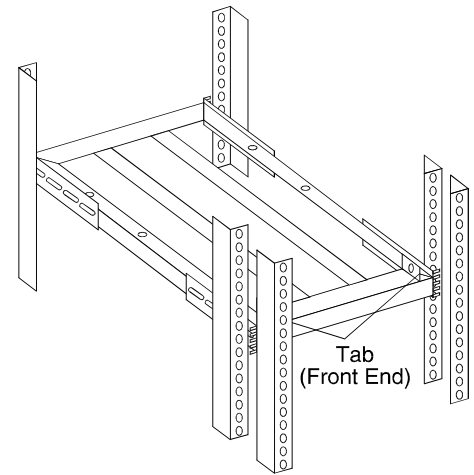

Figure 12
- c. Once you have attached the brackets to the frame, hold the frame in the rack to make sure it will fit properly; if you need to adjust the fit, you can slide the brackets. Next, tighten the bolts that hold the brackets to the frame. Now, look at Figure 12; use the appropriate size bolts to attach the brackets to the uprights in your rack.
Note: Figure 12 is only an example of the mounting position for a rack built to EIA 310-C standards. Different rack manufacturers may vary in design and/or dimensions. Some manufacturers use a “C” channel in front. The frame mounting brackets should be attached to the rear of the “C.”